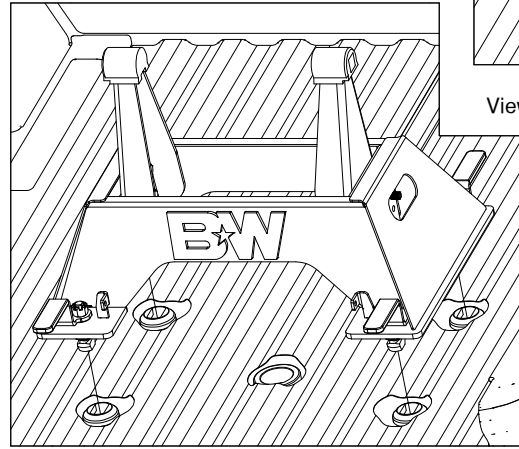

Figure C1: View of unlatched base.
1. **Place base.** Remove the latch pins from each side of the base and rotate the handles out, see Figure C1. Position the base over the attachment points. Carefully lower it until the latch cams pass through the floor and the base rests flat against the top of the attachment points.